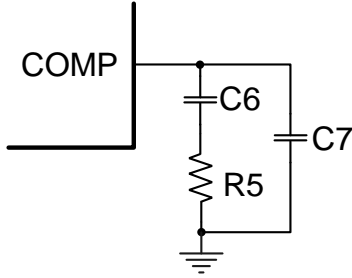

Figure 9: Compensation Network
The MPQ2918 employs current-mode control for easy compensation and fast transient response. COMP is the output of the internal error amplifier and controls system stability and transient response. A series resistor-capacitor (R-C) combination sets a pole zero combination to control the control system's characteristics (see Figure 9). The DC gain of the voltage feedback loop can be calculated with Equation (15):
The system has two important poles: one from the compensation capacitor (C6) and the output resistor of the error amplifier, and the other from the output capacitor and the load resistor (see Figure 9). The first pole (f_{P1}) can be calculated with Equation (16):